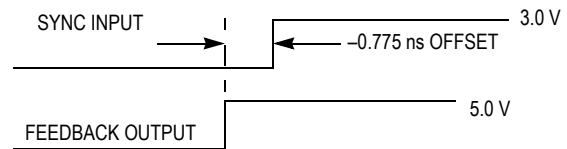

Figure 4. Depiction of the Fixed SYNC to Feedback Offset (t_{PD}) Which is Present When a 470 kΩ Resistor is Tied to V_{CC} or Ground
- A $1\text{ M}\Omega$ resistor tied to either Analog V_{CC} or Analog GND, depicted in Figure 4, is required to ensure no jitter is present on the MC88915 outputs. This technique causes a phase offset between the SYNC input and the output connected to the FEEDBACK input, measured at the input pins. The t_{PD} spec describes how this offset varies with process, temperature, and voltage. The specs were determined by measuring the phase relationship for the 14 lots described in Note 1 while the part was in phase-locked operation. The actual measurements were made with a 10 MHz SYNC input (1.0 ns edge rate from 0.8 V – 2.0 V) with the Q/2 output fed back. The phase measurements were made at 1.5 V. The Q/2 output was terminated at the FEEDBACK input with $100\ \Omega$ to V_{CC} and $100\ \Omega$ to ground.